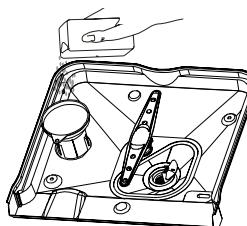

Fig. 3
5. Pour the regeneration salt slowly into the container (capacity about 1.2 kg). The salt will wash out excess water (Fig. 3).